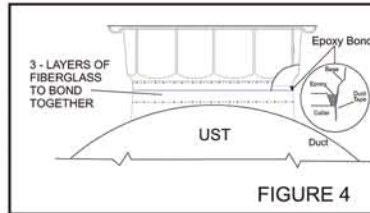

FIGURE 4
G. To attach base to collar using PCI pre-measured epoxy kits, first tape off joining area on the exterior of base with duct tape. Mix epoxy per it's labeled instructions and pour. Do not disturb until hard and material has cooled. Refer to FIGURE 4
H. For fiberglass seams apply fiberglass matting one layer at a time around entire perimeter of sump following it's labeled instructions until you have 3 layer completed. Top coat with a wet coat of gelcoat to complete process. Refer to FIGURE 4